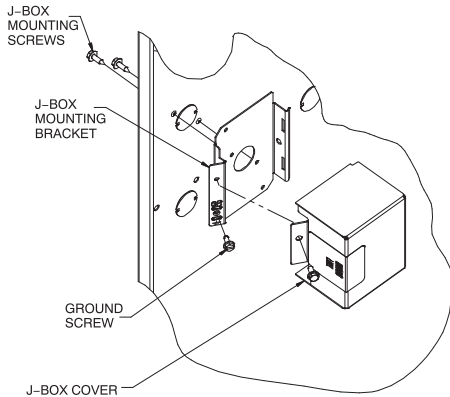

Fig. 34 - Installing J-Box (When Used)
The J-Box cover, mounting bracket and screws are shipped in the loose parts bag included with the furnace. See Fig. 34 for J-Box mounting locations.
9. Connect field power and neutral leads to furnace power leads inside the external electrical box as shown in Fig. 34.
1. Install J-Box mounting bracket to inside of furnace casing. See Fig. 34.
5. Connect field ground wire and factory ground wire to green ground screw on J-Box mounting bracket as shown in Fig. 34.
7. Attach furnace J-Box cover to mounting bracket with screws supplied in loose parts bag. Do not pinch wires between cover and bracket. See Fig. 34.
4. Connect field ground wire and factory ground wire to green ground screw on J-Box mounting bracket as shown in Fig. 34.